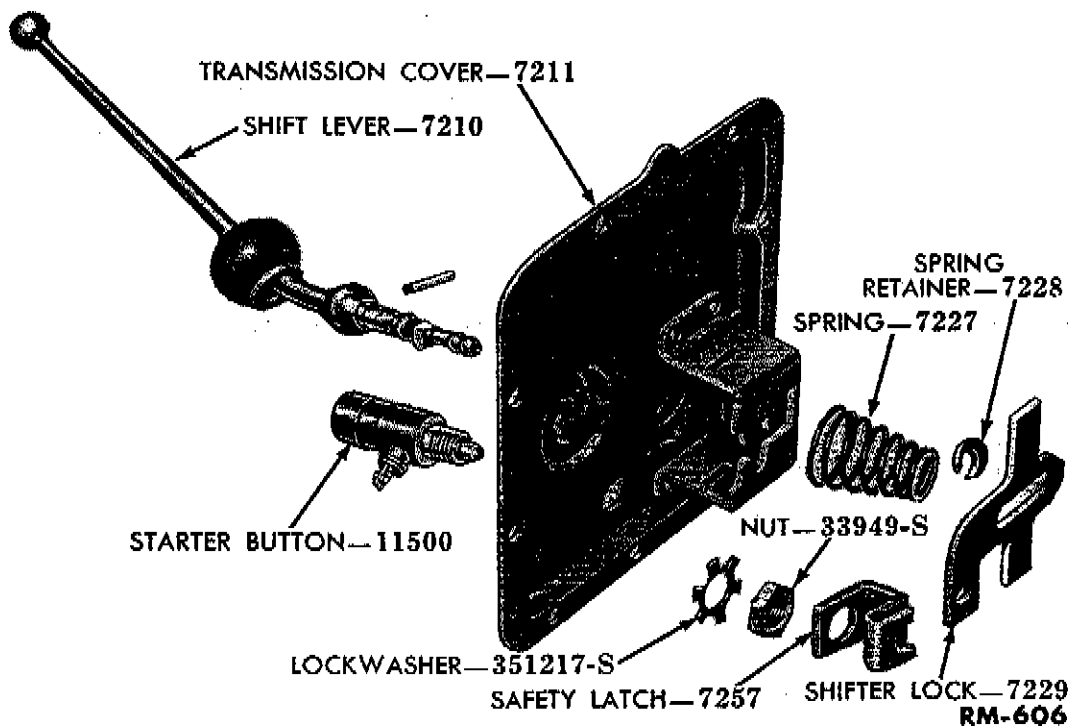

Fig. 15—Transmission Cover, Disassembled
(5) **TRANSMISSION COVER.** Slide the shift lever rubber boot up on the lever. Remove the starter switch. Compress the gearshift lever spring, and remove the horseshoe-type spring retainer. Pull up on the gearshift lever and, by turning it 90 degrees clockwise, lift the assembly. Tilt the safety latch plate and remove (fig. 15). Drive the pin from the gearshift 1
e. Transmission Cover. If the shift lever has been removed, reinstall it, securing with a lever pin. This pin should be installed with an arbor press or bench vise. Install the safety latch plate. Place spring (7227) in position as shown in fig. 15. Slide the gearshift lever through the spring and safety latch plate and turn it 90 degrees until the pin is properly seated in the slot in the bottom of the cover. Compress the spring and install the spring retainer (7228). Position a new gasket on the starter switch and install the switch in the cover. Place the starter latch support over the threaded end of the switch and secure with a tabbed lockwasher and nut. Turn one of the tabs of the washer against the nut and secure the nut in place.